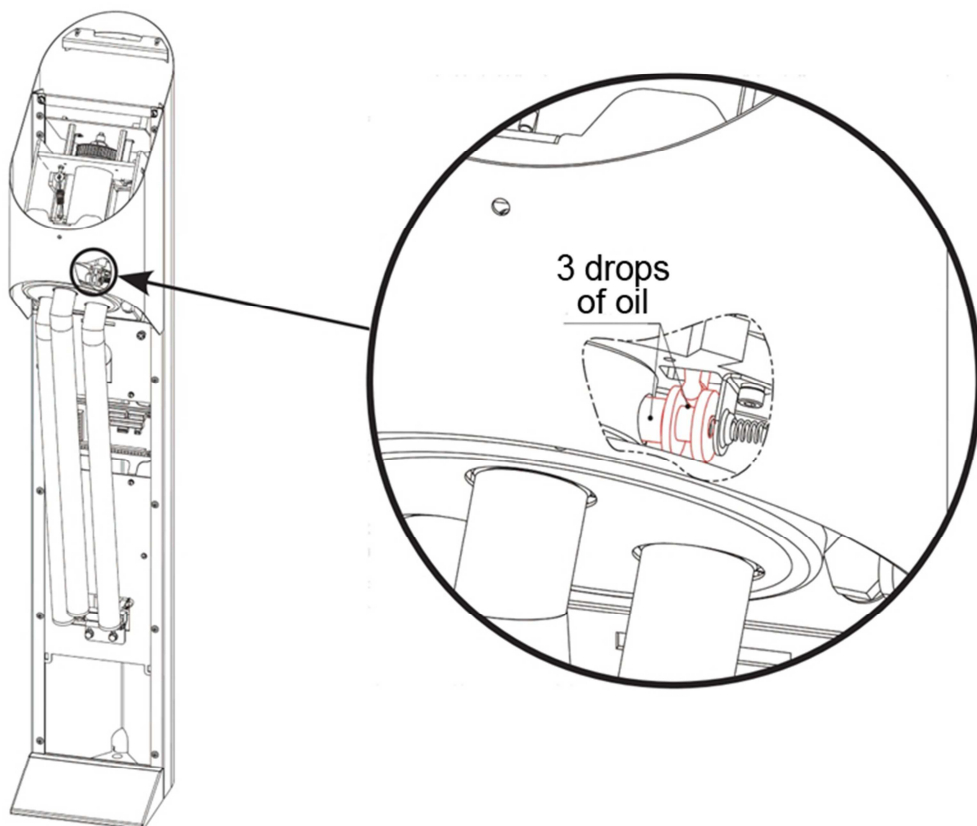

Fig.16
5.5. The connection of lock pin and arms-unblocking cams (Fig. 16). The operation shall be done for each arm by rotating the disc. Hole in Fig. 16 is shown in the conventional manner.